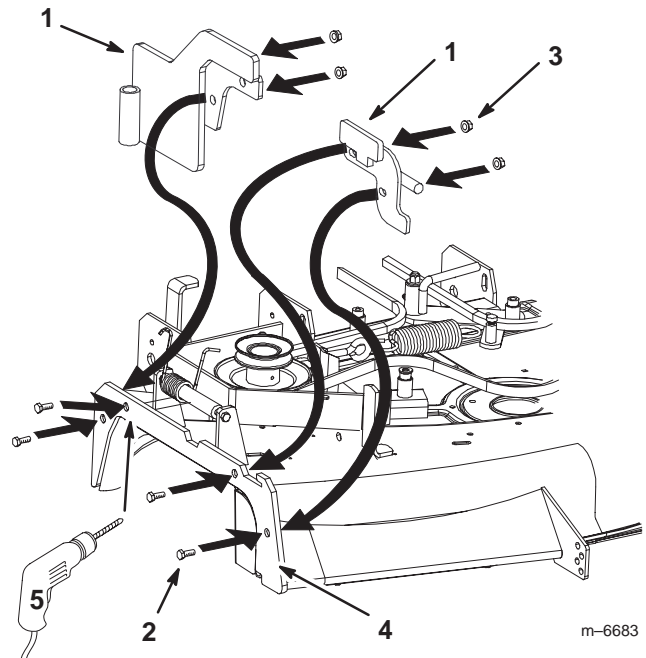

Figure 19
1. Install the mounting plates to the inside of the mounting bracket with 4 bolts (3/8 x 1-1/4 inch) and 4 flange nuts (3/8 inch) (Fig. 19).